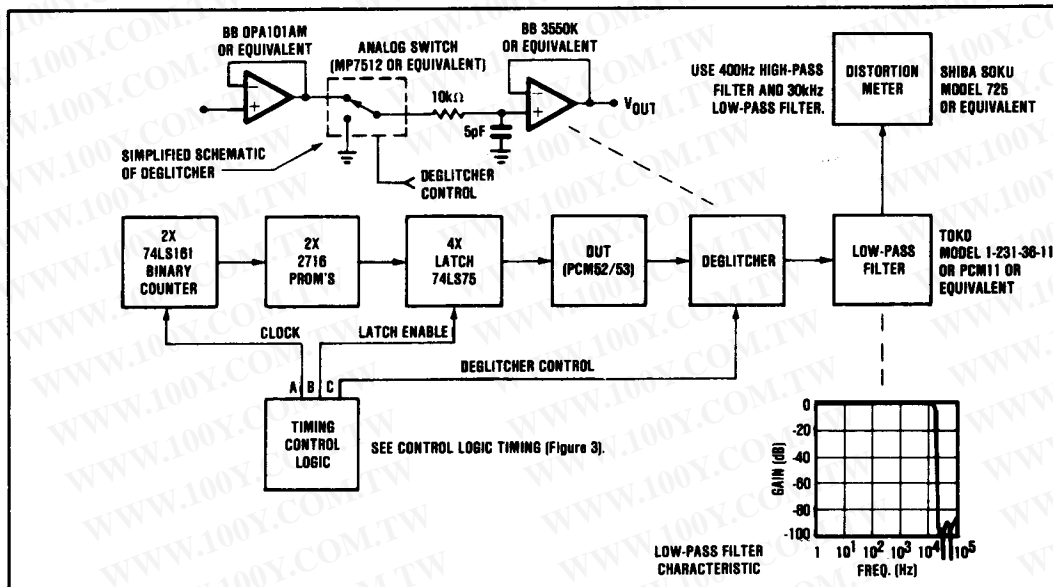
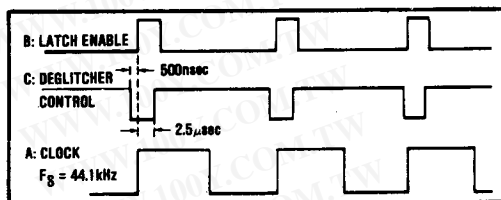

FIGURE 2. Block Diagram of Distortion Test Circuit.
FIGURE 3. Control Logic Timing for PCM53 Distortion Test Circuit.
NOTES: (1) Adjustable to zero with external potentiometer. (2) FSR means Full-Scale Range and is 20V for ±10V voltage output models and 2mA for ±1mA current output models. (3) The measurement of total harmonic distortion is highly dependent on the characteristics of the measurement circuit. A block diagram of a measurement circuit is shown in Figure 2. Burr-Brown may calculate THD from the measured linearity errors using equation 2 in the section on "Total Harmonic Distortion," but specifies that the maximum THD measured with the circuit shown in Figure 2 will be less than the limits indicated. (4) Measured with an active clamp to provide a low impedance for approximately 200nsec. (5) Deglitcher or Sample/Hold delay used in THD measurement test circuit. See Figures 2 and 3. (6) See Connection Diagram and Pin Assignments.
The THD is defined as the ratio of the square root of the sum of the squares of the values of the harmonics to the value of the fundamental input frequency and is expressed in percent or dB. A block diagram of the test circuit used to measure the THD of the PCM53 is shown in Figure 2. A timing diagram of the control logic is shown in Figure 3.